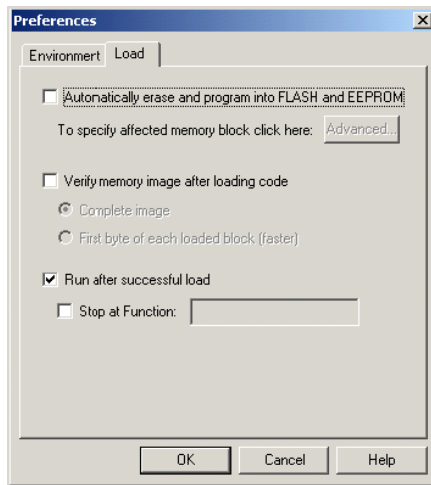

Figure 15. The preferences Dialog Box
- The "Preference" dialog box opens as shown in Figure 15